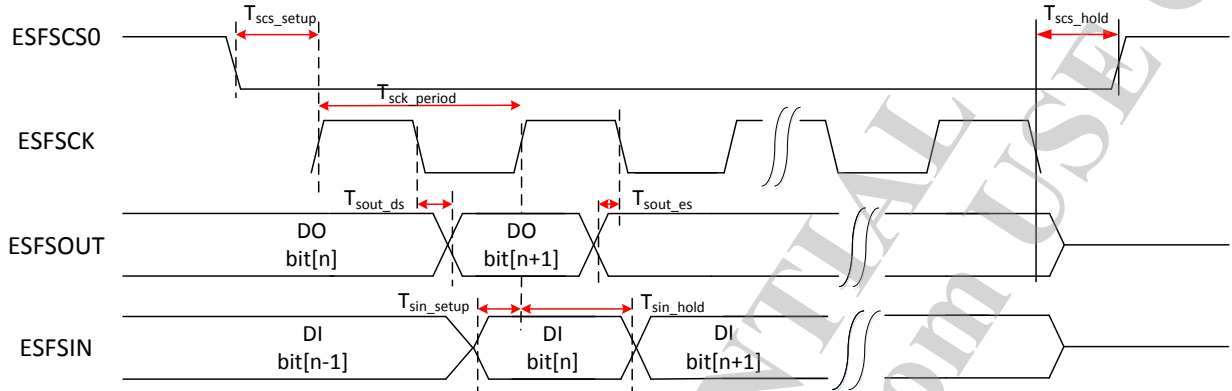

Figure 7.4-13. SF controller interface timing
- The operating characteristics of the SF controller at typical temperature (25°C) are shown in Figure 7.4-13.